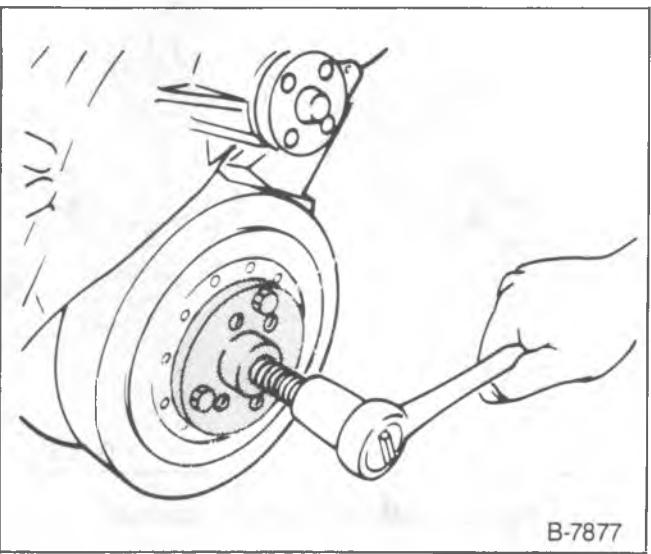

Figure 14—Removing the Torsional Damper
↔ Remove or Disconnect (Figure 14)
3. Torsional damper. Use J 23523-E (figure 14).